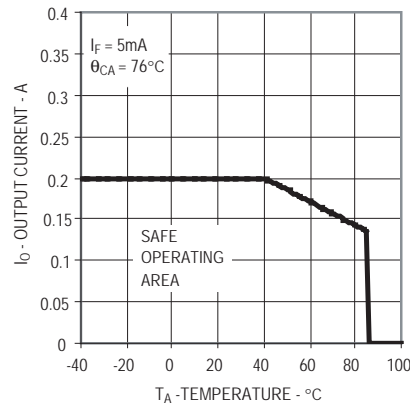
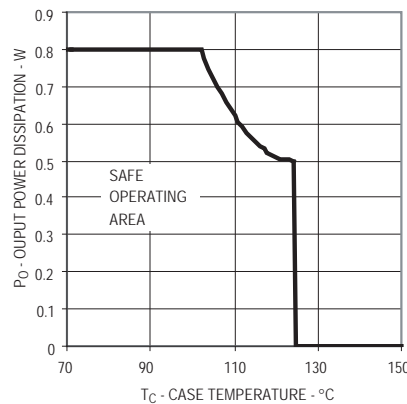

Figure 1. Maximum Average Output Current Rating vs Ambient Temperature
Figure 2. Output Power Derating vs Case Temperature
- For derating, refer to Figure 1 and 2.
Derating curves are shown in Figures 1 and 2. Figure 1 specifies the maximum average output current allowable for a given ambient temperature. Figure 2 specifies the output power dissipation allowable for a given case temperature. Above a case temperature 102°C , the maximum allowable output current and power dissipation are related by the expression $R_{ss}=P_o(\text{max})/(I_o(\text{max}))^2$ from which R_{ss} can be calculated. Staying within the safe area assures that the steady state MOSFET junction temperature remains less than 150°C .